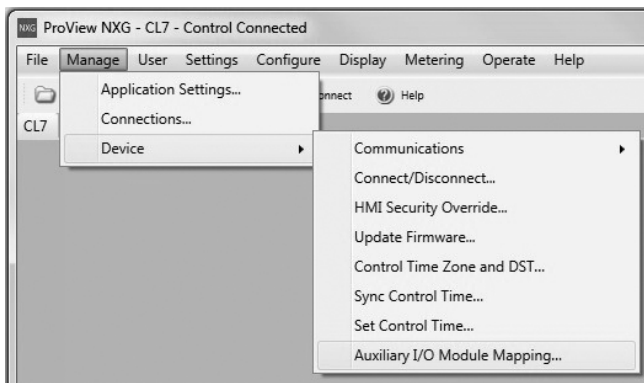

Figure 9. ProView NXG application menu location for I/O module mapping.
9. Once communications have been established, enter the software menu Manage > Device > Auxiliary I/O Module Mapping... See Figure 9.